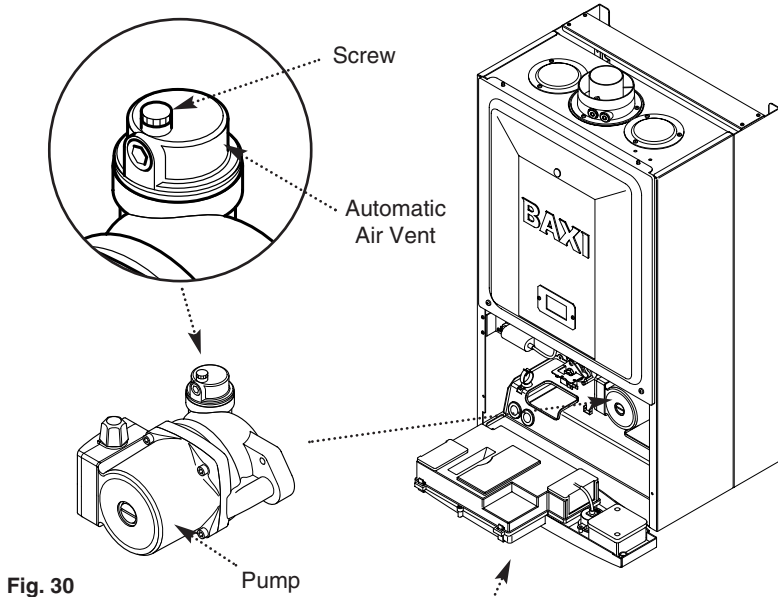

Fig. 30
3. Open the screw on the automatic air vent (Fig. 30).